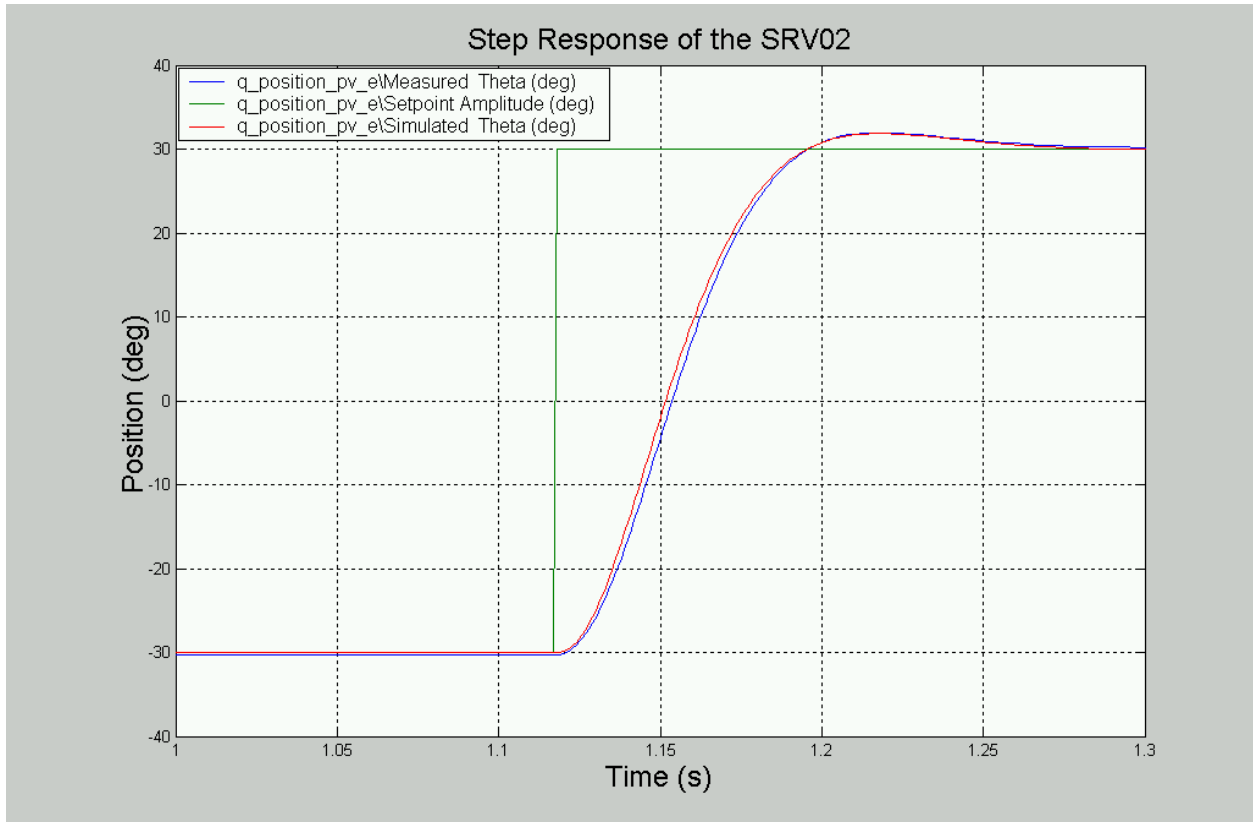

Figure 3 - Step Response to a Command of 30 degrees
If you are sufficiently happy with your results and your response looks similar to **Figure 3** below, you can move on and begin the report for this lab. Remember, there is no such thing as a perfect model, and your calculated parameters were based on the plant model. A control design will usually involve some form of fine-tuning, and will more than likely be an iterative process.
At this point, you should be fine-tuning your K_p and K_v based on your findings from above (*use the table created in section 4.3 of this lab as a guide*) to ensure your response matches the system requirements as seen in **Figure 3**.
We can see by looking at **Figure 3**, that the position response has a **100ms** time to peak and an overshoot of less than **5%**. The system requirements have been met and implemented using a **PV** controller.
- VI. Include your final K_p and K_v after fine-tuning the controller. You should also present a plot of your final system response with the actual, simulated and setpoint signals. this graph should look similar to **Figure 3**.